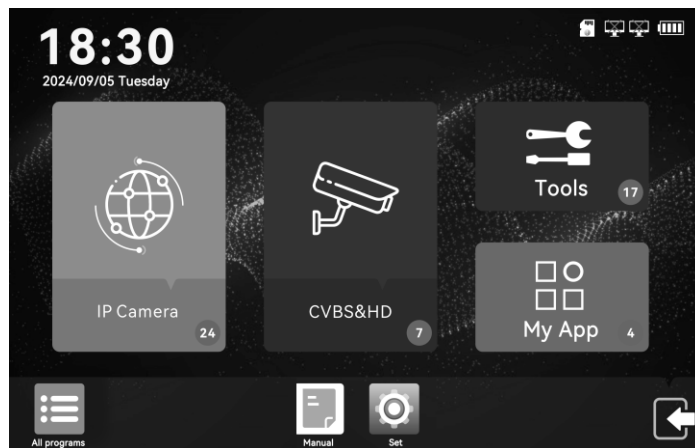
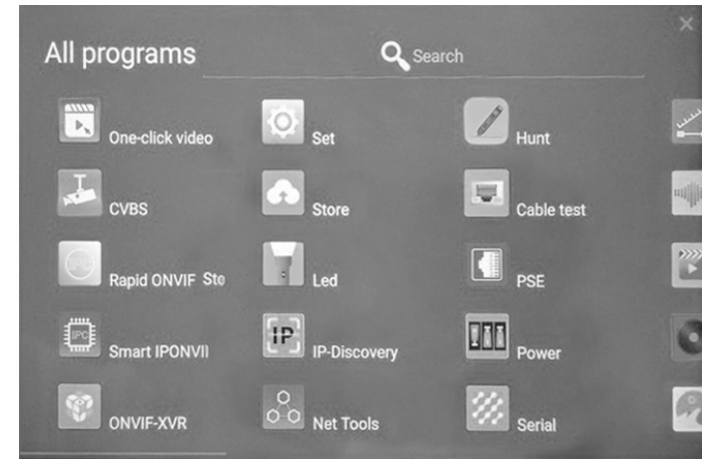

Figure 5 System Desktop
Figure 6
This instrument uses smart operation system, ensure that the lithium battery is installed correctly and has enough power, press the power button for 2 seconds to boot, waiting for system boot completion, then you enter the system desktop main menu, as shown in Figure 5
1) The upper right status bar icons represent the SD card status, network connection status, battery level, the upper left icons represent the current time and date, as shown in Figure 5
2) Directly touch the icon  in the lower left corner of figure 5 to list all software in the system, slide left or right to view more App icons, as shown in Figure 6